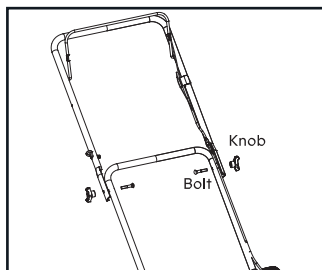

Fig. 2
5. Secure the upper handle to the lower handle using the the handle knob and bolt (supplied) see Fig. 2.